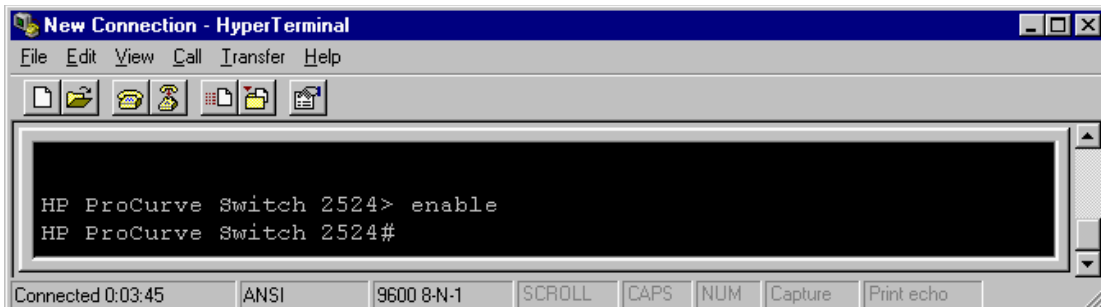

Figure 5-46 Operator level prompt
- If the switch opens in Operator level prompt ">", type **enable** at the command prompt to change to Manager level, as shown in Figure 5-46.